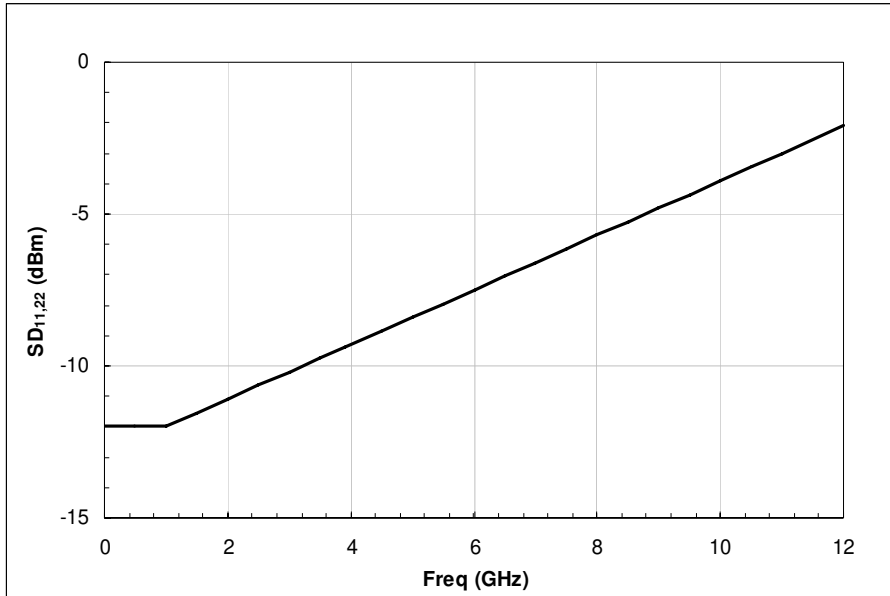

Figure 4. Maximum Transmitter Input and Receiver Output Differential Return Loss
2. Return Loss given by equation  $SDD11(dB) = -12.9 + 0.9 \cdot f$ , with  $f$  in GHz. See Figure 4
2. Differential Return Loss given by equation  $SDD22(dB) = -12.9 + 0.9 \cdot f$ , with  $f$  in GHz. See Figure 4